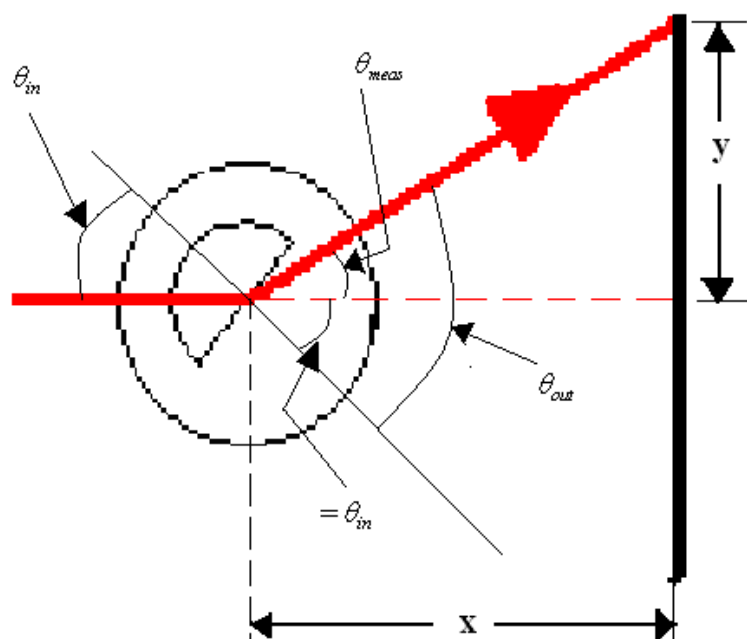

Figure 5.3: Schematic of setup with variable labels.
4. Set the screen about 20 cm beyond the center of the protractor. The center of the protractor is marked as "+". Record this distance (labeled as  $x$  in Fig. 5.3) in your spreadsheet.
2. Place a mark on the screen where the light strikes the screen for each of the incident angles. The location of the light on the screen is labeled as  $y$  in Fig. 5.3.